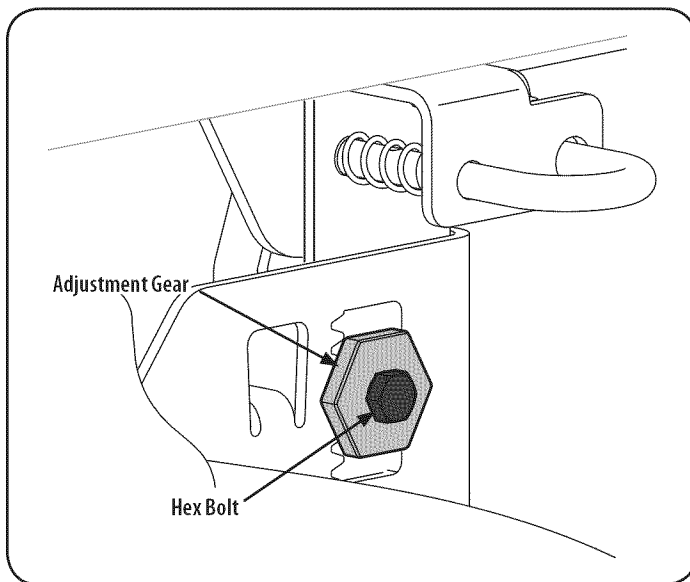

Figure 24
3. Loosen, but do NOT remove, the hex bolt on the rear left deck hanger link. See Figure 24.
4. Using a wrench, raise or lower the left side of the deck by turning the adjustment gear. See Figure 24.